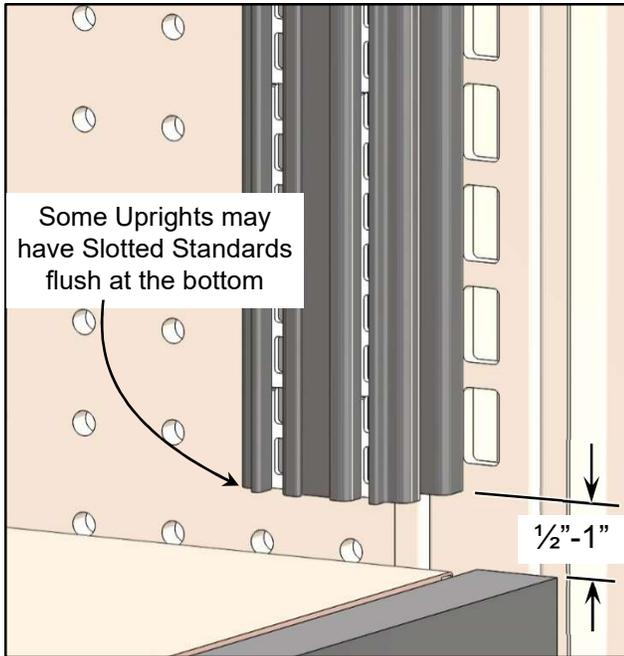

Figure 2
1. Hang one Upright on the Crossbars. Confirm the bottom of the Uprights are $\frac{1}{2}$ "-1" above the Gondola Base Deck. (See Figures 2 & 3).